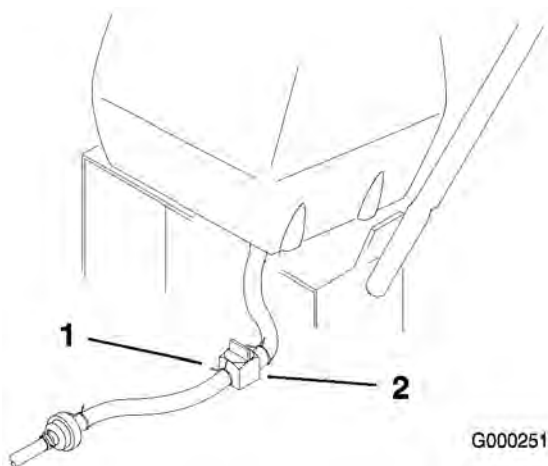

Figure 33
2. Close the fuel shut off valve at the fuel tank (Figure 33).
3. Squeeze the ends of the hose clamp together and slide it up the fuel line away from fuel filter (Figure 33).
4. Pull the fuel line off the fuel filter (Figure 33). Open the fuel shut off valve and allow the gasoline to drain into a gas can or drain pan.
2. Close fuel shut off valve at the fuel tank (Figure 33).
6. Open fuel shut off valve at fuel tank (Figure 33).